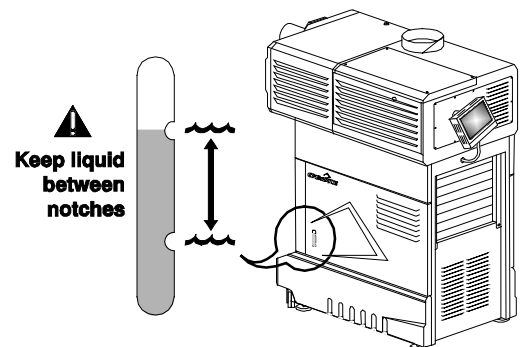

Figure 2.30. Re-fill and Check Level
6. On each side of the rear opening in the pedestal, loosen the 2 bolts securing the rear extender legs to the projector. See Figure 2.30.